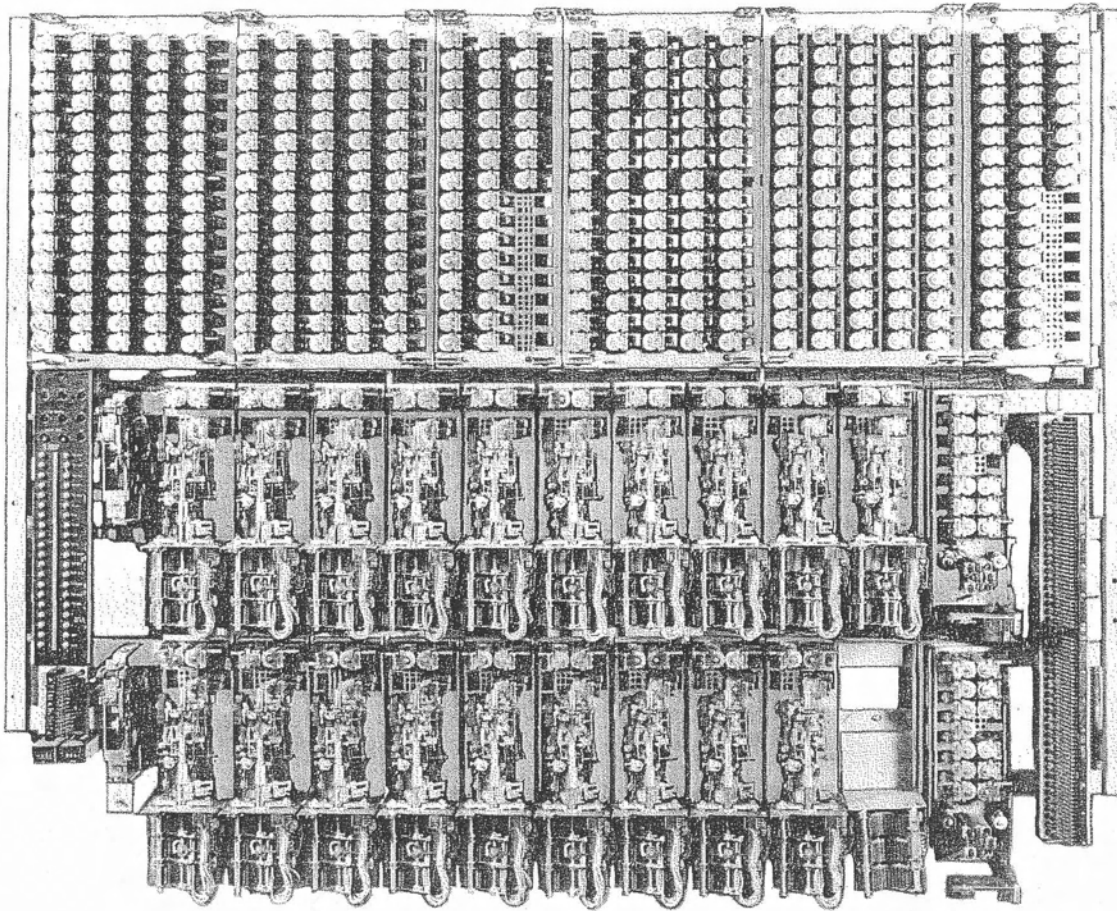

Figure 5. Two-hundred-line linefinder shelf with linefinders mounted below line and cut-off relays.
take care of its traffic. Sometimes the traffic originating in 200 lines requires more linefinders than can be mounted on the linefinder shelf. Then a shelf mounting nothing but linefinders and banks is utilized. These linefinders are connected to the group relays and the distributors of the 200 lines just as are the regular finders. These linefinders operate just as the regular linefinders. The bank multiple of this shelf is reversed in the middle so that the number of finders in group A and group B are kept about equal. This shelf is called an "overflow" shelf since the number of finders needed "overflow" the regular linefinder shelf. (Overflow shelves do not handle just "overflow" traffic. The linefinder shelf treats an overflow finder essentially the same as a regular finder). For shelves of the type shown in figure 4, the overflow finders mount at the left of the regular finders. For shelves of the type shown in figure 5, the overflow finders mount either just below the regular finders or on a non-adjacent frame. See also figure 10.
3.6 Meters. Linefinder shelves may mount up to four counters (figure 5 shows two). A PCA (peg count, group A) meter counts the calls made through group A linefinders; a PCB meter, through group B linefinders. An ATB (all trunks busy) meter counts the times that all linefinders on the shelf are busy. An OF (overflow) meter counts the number of calls that are not completed because all finders on the shelf are busy.